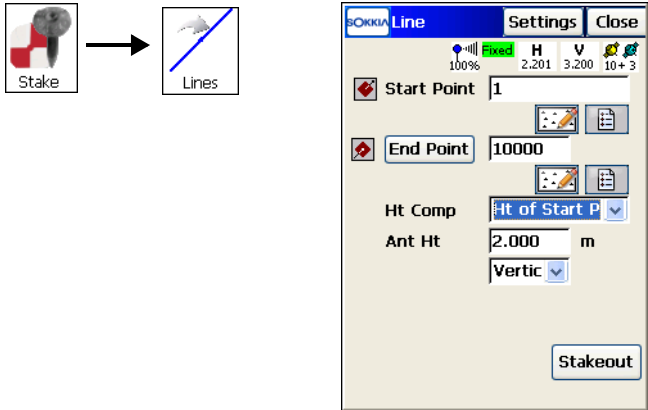

Figure 9-15. Stakeout Line
1. To stake out points along a line, tap **Stake ▶ Lines** (Figure 9-15 on page 9-12).
2. On the Stakeout *Line* screen (Figure 9-15 on page 9-12), specify the reference line by choosing the start point and either the end point or the azimuth. Currently, the stakeout points have the same height as the starting point. Also, specify the
antenna parameters (GPS+ mode), or the height of the rod (TS mode). Tap the **Stakeout** button (Figure 9-15).